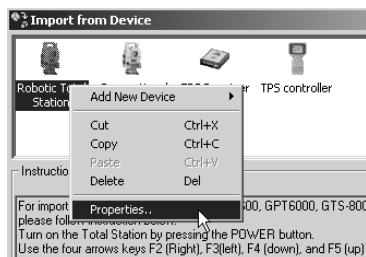

Figure 2-31. Right-click a Total Station
1. On the *Import from Device* dialog box, right-click a Conventional/Robotic Total Station icon and click **Properties** on the pop-up menu (Figure 2-31).